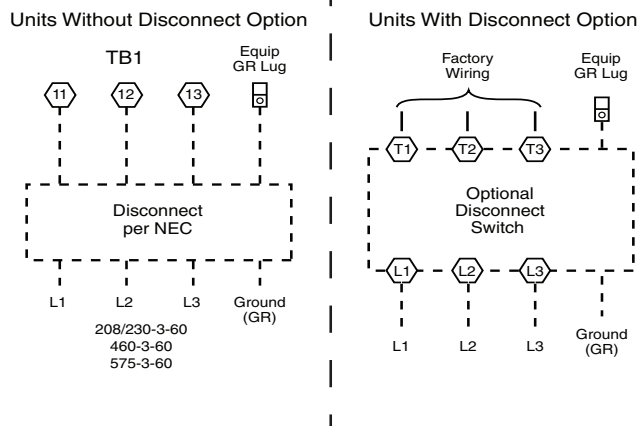

Fig. 21 — Power Wiring Connections
Size wire based on MCA (Minimum Circuit Amps) on the unit informative plate. See Fig. 21 for power wiring connections to the unit power terminal block and equipment ground. Maximum wire size is 2/0 AWG per pole.
3. Install power lines to terminal connections as shown in Fig. 21.